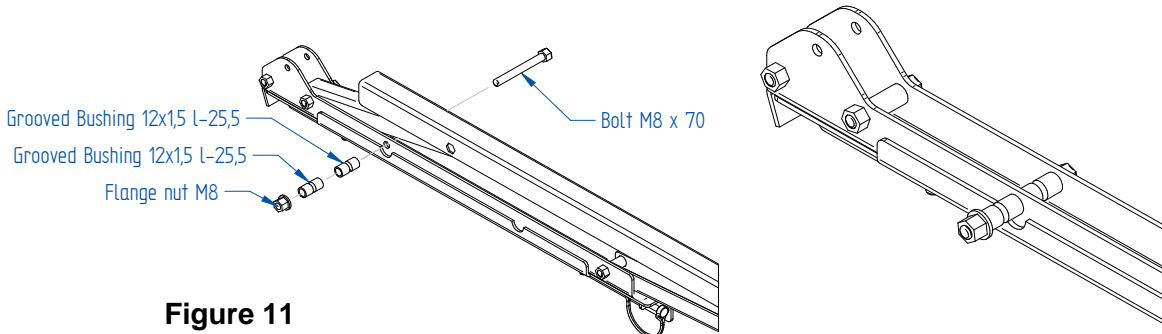

Figure 11
7.3.1. On the lower part of the hinge, remove the M8x40 bolt and replace it with a M8x70. On the bolt install a second grooved pushing and fasten with M8 nylock flange nut. See figure 11.